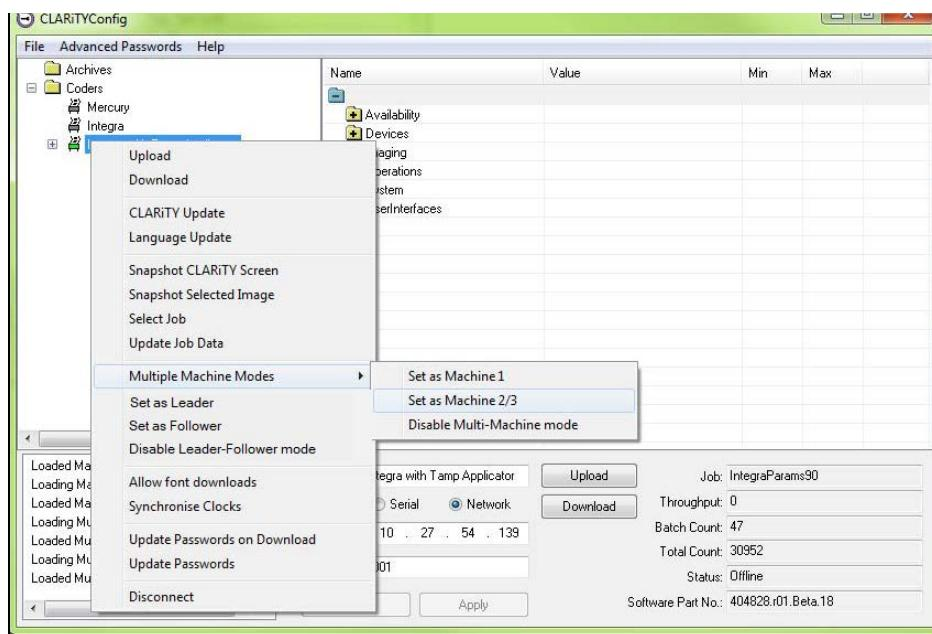

Figure 8-15: Set as Machine 2/3
- 2 Right click on the 'New Printer' icon when the icon turns 'green' and Select 'Multiple Machine Modes > Set as Machine 2/3' from the list as shown in Figure 8-15.